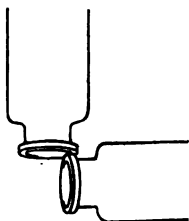

Fig. 22.
1. Try to pour hydrogen upward as follows. Hold in the left hand an *inverted* empty (i.e., filled with air) rec., and take an inverted rec. of hydrogen in the right, and gradually but quickly turn the latter so as to bring its mouth under that of the former (Fig. 22) in such a way that the two gases may change places. Now after two or three seconds bring each, one at a time, to the flame. Describe your result, and state what property of H it illustrates.